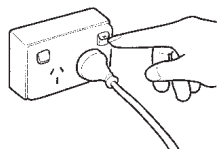

Fig 1.
|  <p>FIG 1.</p> | | |
1. Plug the power cord into the wall socket and turn on the power to the heater, see Fig 1. (The use of an extension cord is not recommended.)